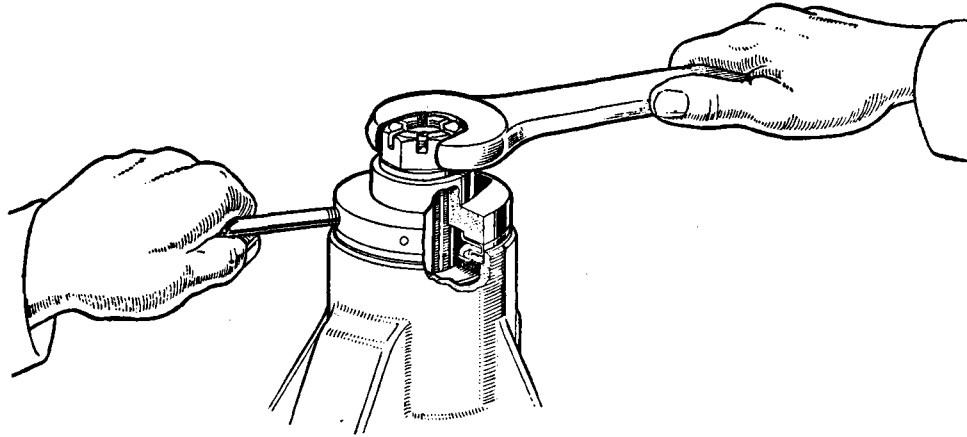

Fig. 19. Fitting the pinion oil seal.
- (1) Remove the drive pinion nut, washer and companion flange.
- (2) Install the oil slinger, and then fit the pinion oil seal assembly, using Tool No. SL.4, as shown in Fig. 19. Place the oil seal with the dust excluder flange uppermost (not omitting the oil seal gasket used with the metal case type seal on later models), fit the installation collar, Tool No. SL.4, and then tighten down the pinion nut and washer to drive the assembly home. Remove the installation collar.
- (3) Fit the companion flange, washer and pinion nut, tighten securely.
- (4) Fit the rear cover gasket, renewing it if required, and rear cover, securing same with set bolts and lock washers, not omitting the ratio tag which is attached by one of the set bolts.
- (5) Re-install the axle shafts and hub bearings, etc., as described on page H.10 under "Axle Shafts—Refitting".
- (6) Check that the drain plug is securely tightened, then fill with the appropriate quantity of one of the hypoid lubricants recommended on page H.8.
- (7) Replace the filler plug and check that the cover set bolts are tight.
- (8) Check for oil leaks at the cover, pinion oil seal and where the differential cap bolt holes break through.
- (9) Finally grease the hub bearings.